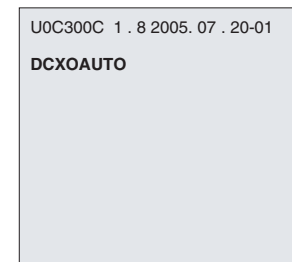

Fig.2
- b) Enter factory mode, press "Vol -"(FORMAT) key , it will display " DCXOAUTO " , (Fig.2) then press "ZOOM+" (light) key to start auto adjust , when it displays "DCXOAUTO OK" , the adjust is finished .